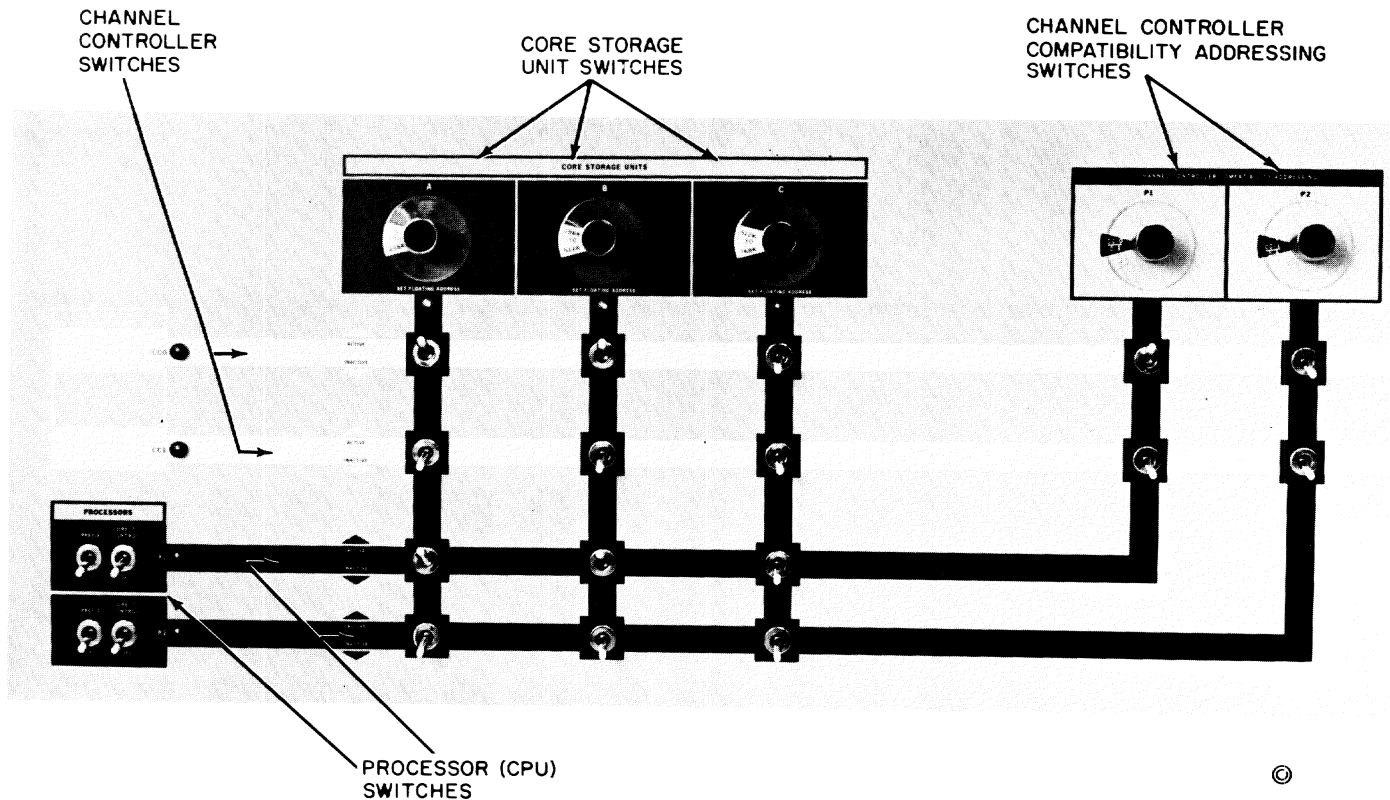

Figure 3. Configuration console -- channel controllers, processors, and main storage units
1. Set the appropriate CHANNEL CONTROLLER COMPATIBILITY ADDRESSING dial, shown in Figure 3, to agree with the channel controller and CPU that will be used for IPL; this setting has effect only at IPL. For example, if CPU P1 and channel controller 1 are to be used for IPL, set the P1 CHANNEL CONTROLLER COMPATIBILITY ADDRESSING dial to
2. Turn the PREFIX and DIRECT CONTROL switches on (to the up position). (See Figure 3.)